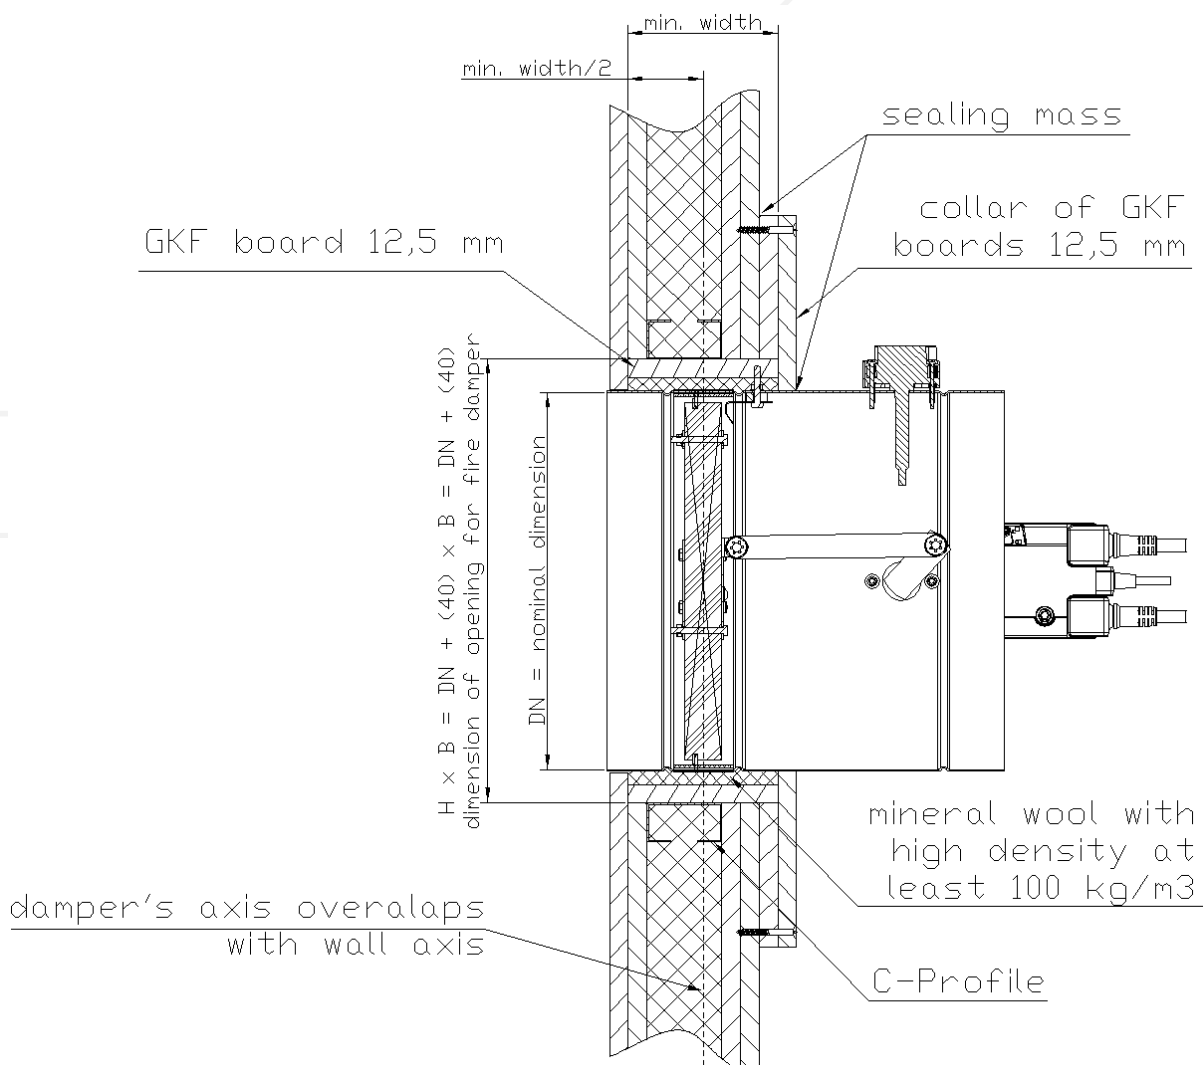

Figure 18. Installation method of fire dampers KTM-O in flexible walls structures one-sided access
- Put the closed fire damper into the installation opening and support or suspend, in this way that an axis of the fire baffle matches the axis of the wall (Fig. 18), and ensure a concentricity of fire damper and installation opening.